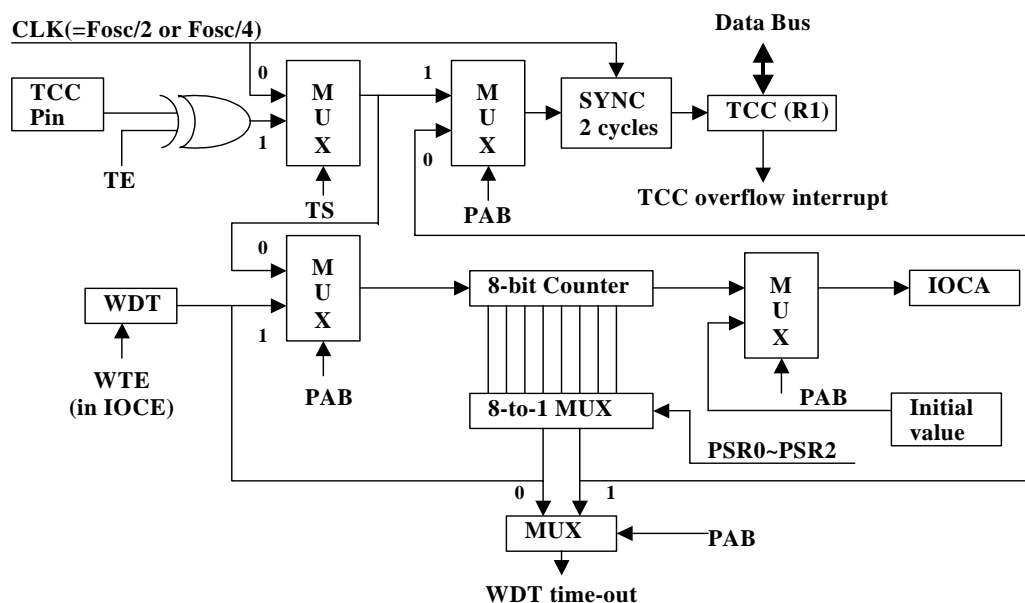

Fig. 5 Block Diagram of TCC and WDT
An 8-bit counter available as prescaler for the TCC or WDT. The prescaler is available for either the TCC or WDT only at any given time, and the PAB bit of the CONT register is used to determine the prescaler assignment. The PSR0~PSR2 bits determine the ratio. The prescaler is cleared each time the instruction is written to TCC under TCC mode. The WDT and prescaler, when assigned to WDT mode, are cleared by the "WDTC" or "SLEP" instructions. Fig. 5 depicts the circuit diagram of TCC/WDT.
- R1 (TCC) is an 8-bit timer/counter. The clock source of TCC can be internal or external clock input (edge selectable from TCC pin). If TCC signal source is from internal clock, TCC will increase by 1 at every instruction cycle (without prescaler). Referring to Fig. 5, $CLK = Fosc/2$ or $CLK = Fosc/4$ application is determined by the CODE Option bit CLK status. $CLK = Fosc/2$ is used if CLK bit is "0", and $CLK = Fosc/4$ is used if CLK bit is "1". If TCC signal source comes from external clock input, TCC is increased by 1 at every falling edge or rising edge of TCC pin.